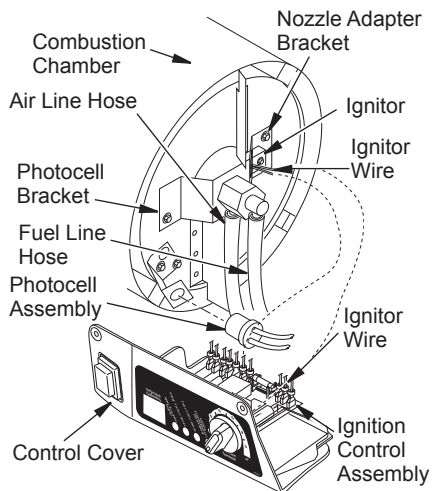

Figure 14 - Disconnecting Ignitor Wires from Ignition Control Assembly (170T Model Shown)
- Disconnect ignitor wires from ignition control assembly (see Figure 14). Pull the ignitor wires up through the hole in the lower shell.
- Disconnect fuel line hose and air line hose. Remove photocell from photocell bracket (see Figure 14).
- Route the ignitor wires back down through the hole in the lower shell. Connect wires to the ignition control assembly (see Figure 14, page 11).